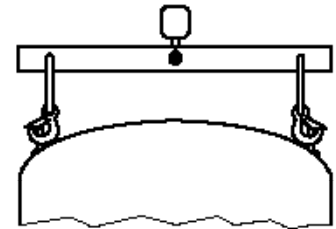

Fig. 3
■ Beware that all compressor handling must be carried out with extreme caution to avoid any shocks. Dedicated packing handles are to be used for all required manipulation of the compressor; otherwise appropriate and safe lifting equipment is to be used during handling and unpacking. (Refer to Fig. 3).